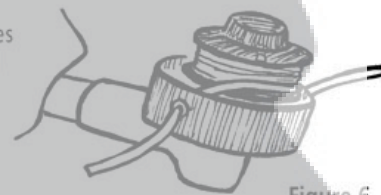

Figure 6
- Making certain that lines have not become trapped under the spool (Figure 6) place the spool back in the head.